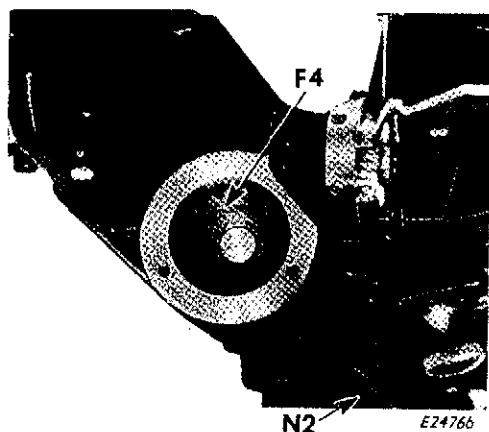

Fig. 54. Removing Hook Driving Shaft and Gear
1. Remove cover from gear case **Fig. 54**.